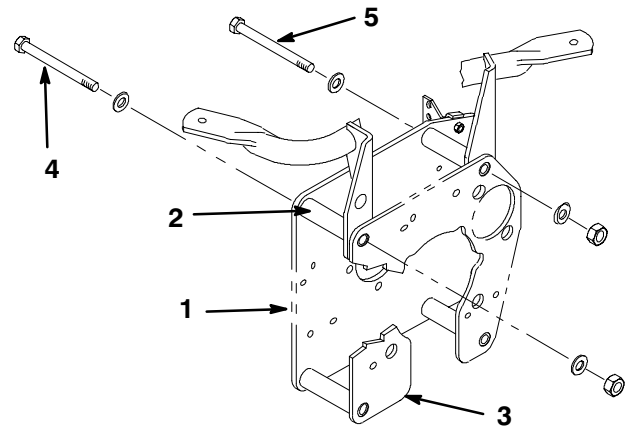

Figure 1
2. Remove top left capscrew, (2) washers and nut securing backing plate and spacer to pump plate (Fig. 1).
3. Install new M12 x 140MM capscrew, (2) washers and nut (Fig. 1). Tighten securely.
4. Remove top right capscrew, (2) washers and nut securing backing plate and spacer to pump plate (Fig. 1).
5. Install new M12 x 140MM capscrew, washers and nut (Fig. 1). Tighten securely.